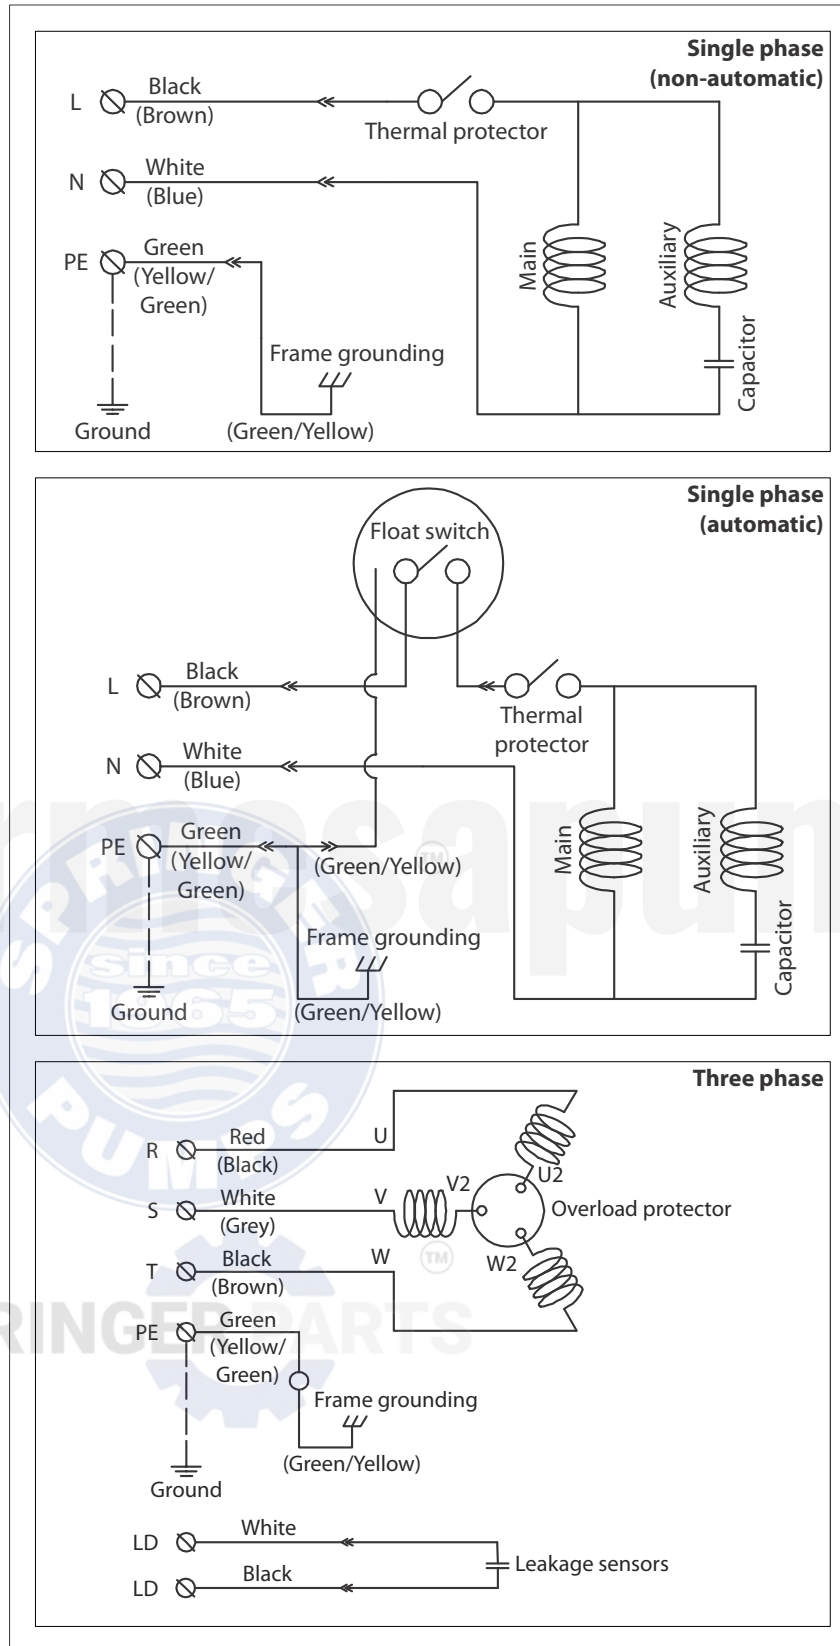

Figure 3
- a) Wire as indicated for the appropriate start system as shown in figure 3.